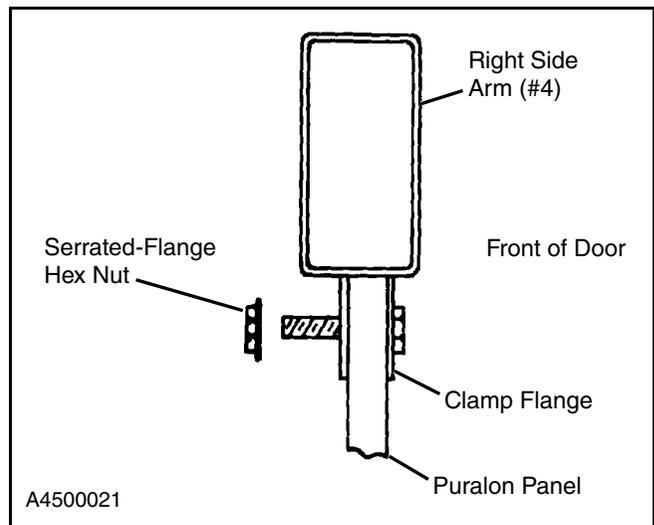

Figure 29
2. Attach the panel and clamp flange to the right side arm with 5/16-18 serrated-flange hex nuts provided with the door. (See Figure 29.)